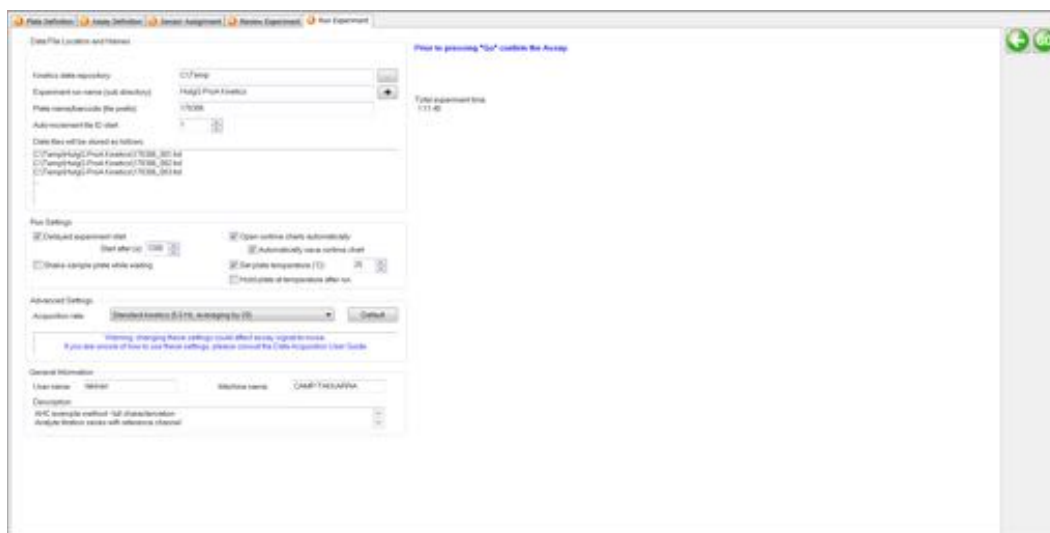

Figure 6-53: Run Experiment Window—Octet RED96
1. Click the **Run Experiment** tab, or click the arrow  to access the Run Experiment window (see Figure 6-53).